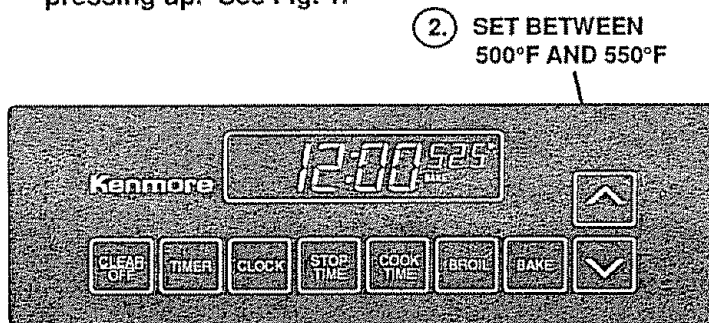

Fig. 1
2. Select a temperature between 500°F and 550°F by pressing up. See Fig. 1.